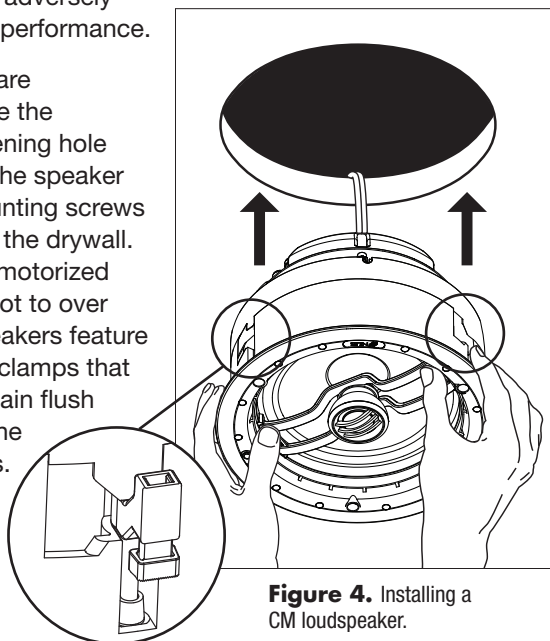

Figure 4. Installing a CM loudspeaker.
9. Once the speaker wires are connected, carefully slide the loudspeaker into the opening hole (**Figure 4**). While holding the speaker in place, tighten the mounting screws to secure the speaker to the drywall. We recommend using a motorized screwdriver. Be careful not to over tighten. The CM loudspeakers feature spring loaded mounting clamps that allow the speaker to remain flush with the ceiling, even if the drywall shifts or expands.